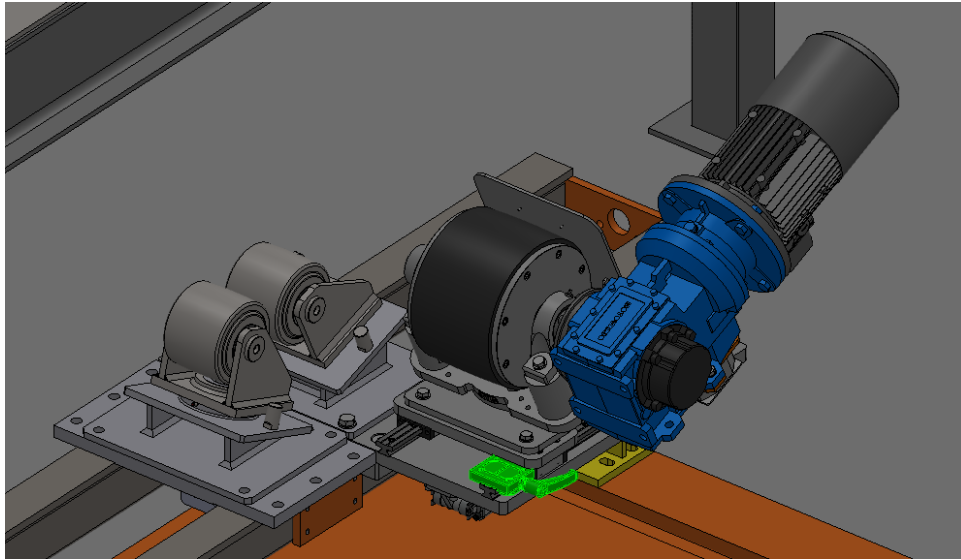

Figure 8: Stopper
- Put the stopper in this position: it will hold the accelerator, to avoid it lifting the pipe (Figure 8);